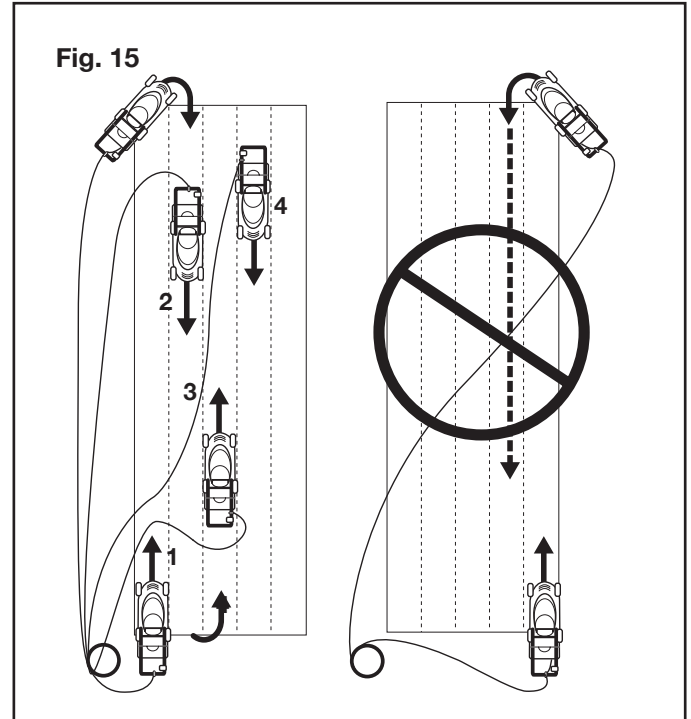

Fig. 15
- Proceed to cut as shown in Fig. 15, working from position 1 towards position 2.
- Proceed as shown in Fig. 15, always working away from the electric extension cord.